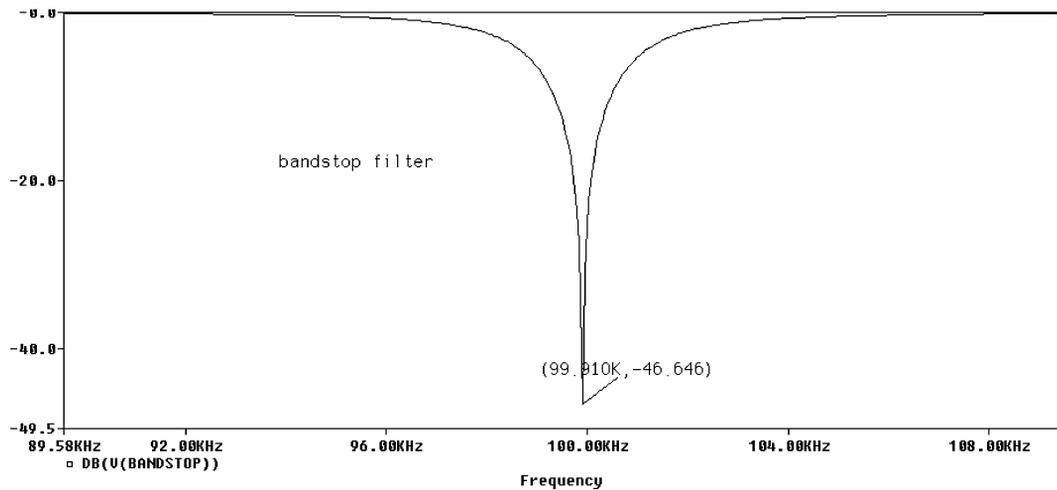

FIGURE 6.44: Bandstop series-tuned circuit
(4) The bandstop series-tuned circuit in Fig. 6.44 has a transfer function given as